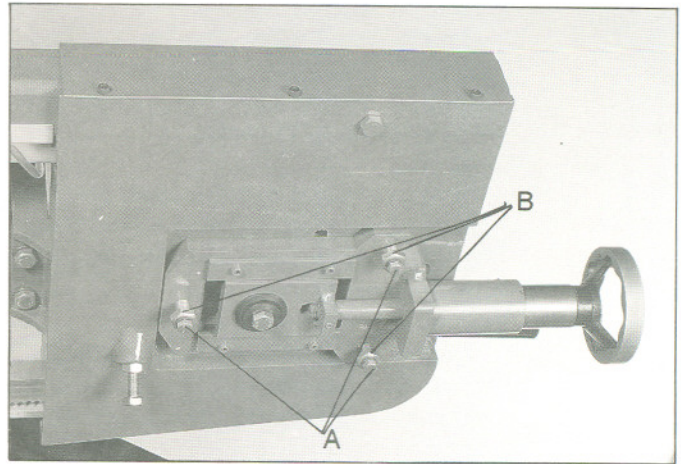

Fig. 8
4. Loosen the three bolts (A - Fig. 8) located on the top of the tracking nuts.
5. Tracking adjustment is accomplished by either loosening or tightening three adjusting nuts (B - Fig. 8).
7. Tighten locking bolts (A) once properly tracking is completed.